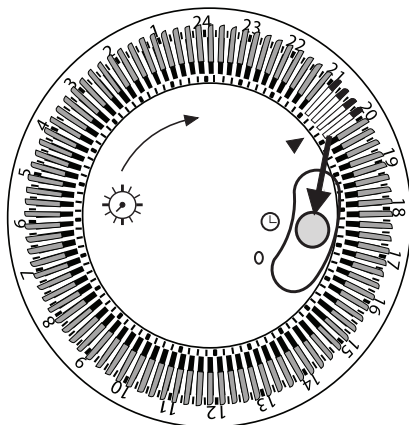

Fig 2
2. Fit the wheels assemblies onto the radiator by placing the U-shaped bolts between the outermost fins on each side of the radiator (see Fig.2 - 3).
(Fig 2).